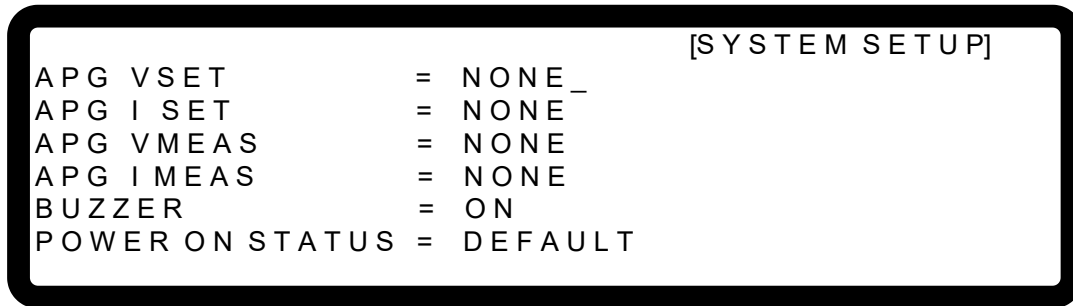

Figure 3-5
1. In Config setup page, press “**1**” and “**ENTER**” will display the screen of Figure 3-5.